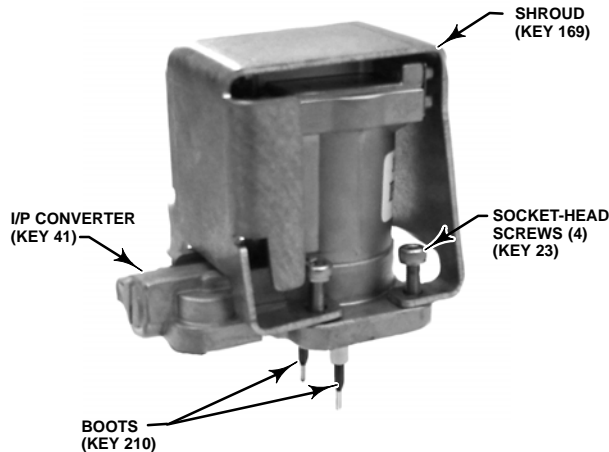

Figure 7-3. I/P Converter
1. Remove the front cover (key 43), if not already removed.
2. Refer to figure 7-3. Using a 2.5 mm hex socket wrench, remove the four socket-head screws (key 23) that attach the shroud (key 169) and I/P converter (key 41) to the module base (key 2).
3. Remove the shroud (key 169); then pull the I/P converter (key 41) straight out of the module base (key 2). Be careful not to damage the two electrical leads that come out of the base of the I/P converter.
4. Ensure that the O-ring (key 39) and screen (key 231) stay in the module base and do not come out with the I/P converter (key 41).
2. Ensure the two boots (key 210) shown in figure 7-3 are properly installed on the electrical leads.
3. Install the I/P converter (key 41) straight into the module base (key 2), taking care that the two electrical leads feed into the guides in the module base. These guides route the leads to the printed wiring board assembly submodule.
4. Install the shroud (key 169) over the I/P converter (key 41).
5. Install the four socket-head screws (key 23) and evenly tighten them in a crisscross pattern to a final torque of 1.6 N•m (14 lbf•in).